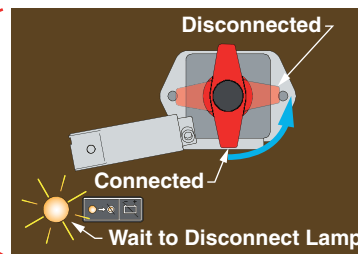

Figure 5-1-1 Battery Disconnect Switch Location
Always set the Battery Disconnect switch to "OFF" before performing any welding. The Battery Disconnect Switch is located on the right side of the machine (See Figure 5-1-1). Turn the switch counterclockwise to disconnect the batteries.
- Set Battery Disconnect Switch to OFF located on the right side of the machine (See Figure 5-1-1). Make sure the "Wait to Disconnect" lamp is off.